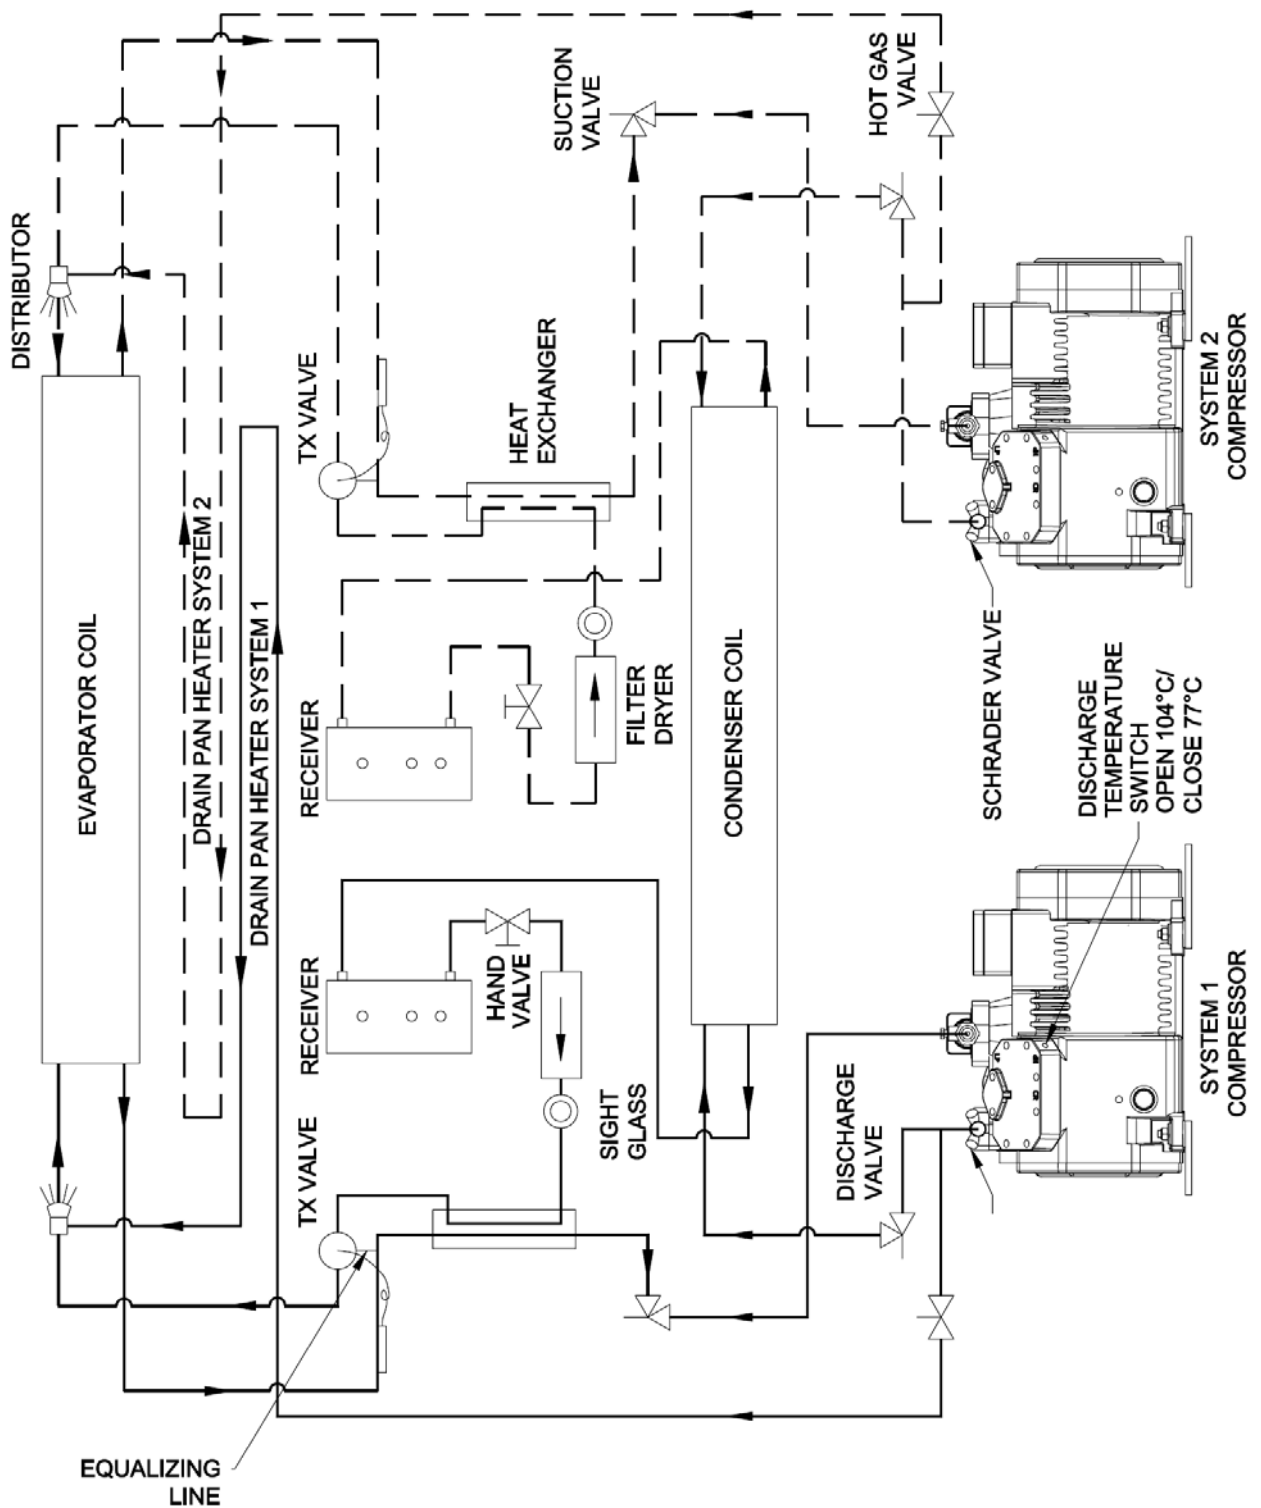

FIGURE 2.3
Refer to Fig 2.3. Theory piping diagram – this is a schematic piping diagram of a typical refrigeration circuit and will be referred to in the following explanation of refrigeration theory.
The method used to transfer heat from a place where it is not wanted to a place where it is not objectionable is the changing of a liquid to a vapor and changing of the vapor back to a liquid. See the piping diagram, Figure 2.3.
2.3 Unit Piping Diagram (Figure 2.3)